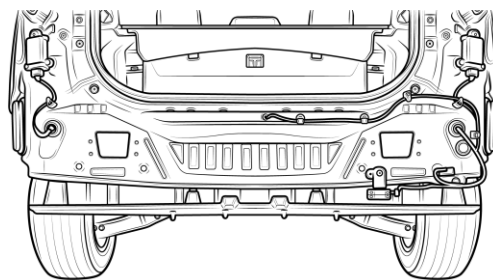

Fig 7-2
- (c) Bumper Beam and Support Disassembly should look like (Figure 7-2).